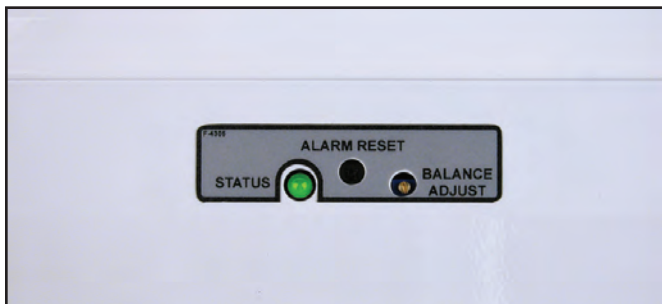

Figure 7. Calibration controls
- IV. Push and hold the ALARM RESET button on the ionizer until the STATUS LED turns red (see Figure 7). Release the button and the LED should switch back to green. This allows the user to calibrate the balance (offset voltage) of the ionizer without setting off the alarm.